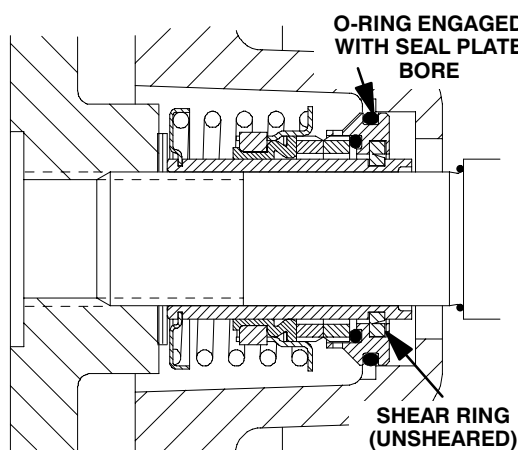

Figure C-9. Seal Partially Installed
Clean and inspect the impeller as described in **Impeller Installation and Adjustment**. Install half of the set of impeller shims (28) provided with the seal, and screw the impeller onto the shaft until it is seated against the seal (see Figure C-9).